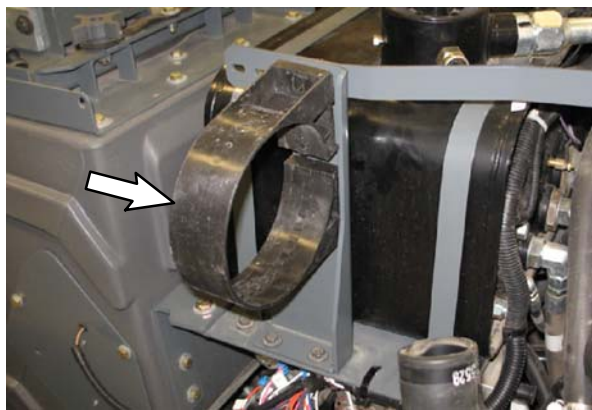

FIG. 43
56. Use saved hardware to install the air filter clamp onto the air cleaner bracket (25) and install the air cleaner bracket onto the machine. Do not completely tighten hardware. Hardware is tightened during later adjustment. (Fig. 43)